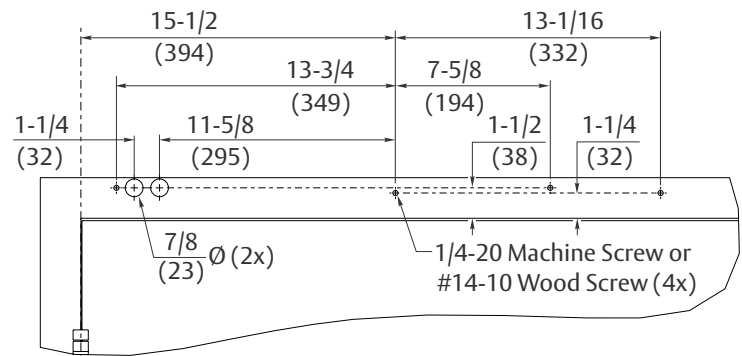

Figure 3 Right Hand Shown
4. Using detailed template on page 15, prepare four (4) holes for 1/4-20 x 1/2" machine screws or 14-10 x 2-1/2" wood screws. Blind rivet nut (by others) is suggested for unreinforced hollow metal or aluminum frames. (Figure 3)
5. For concealed mounted conduit (if applicable): Prepare two (2) 7/8" (22mm) diameter holes for conduit, for power input and for switch/sensor wires.